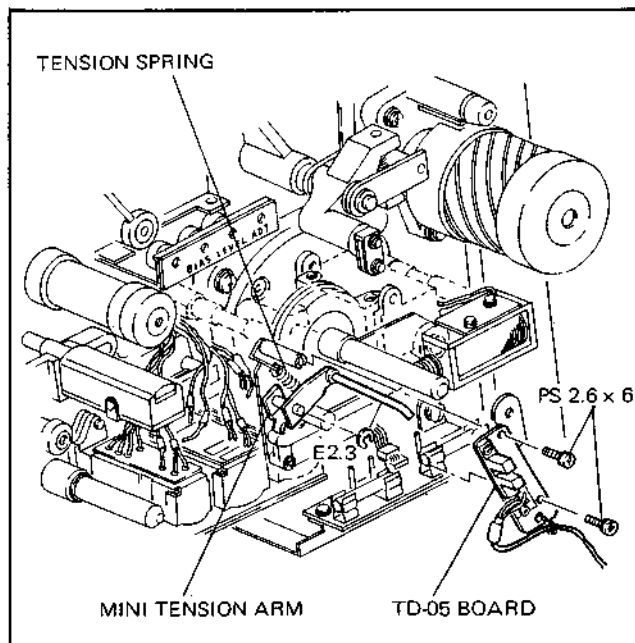

Fig. 3-45. Mini Tension Arm Replacement
2. Remove the E ring holding the mini tension arm and remove the one end of the spring shown in Fig. 3-45. Replace for the new mini tension arm, apply the spring and reinstall the E ring.